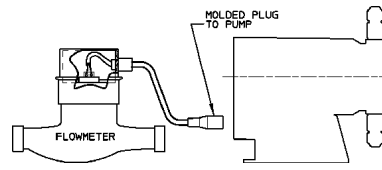

FIGURE 12
- Typical wiring is shown at right for use with switch closure flowmeters. (Figure 12)